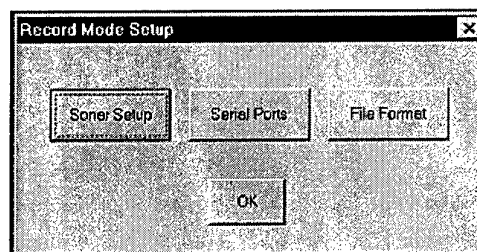
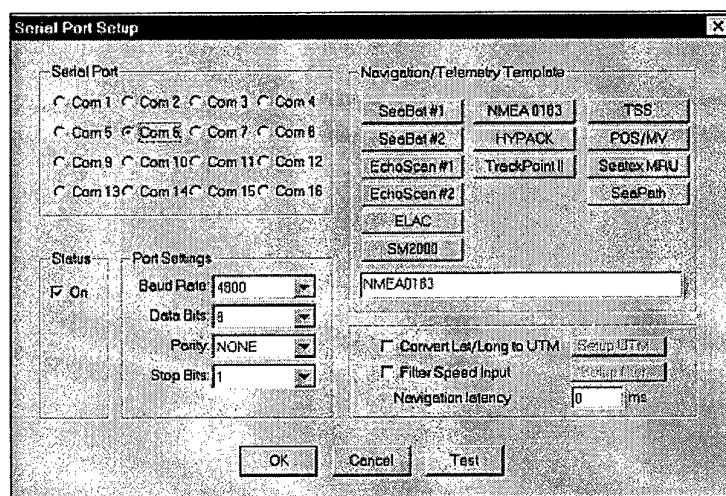
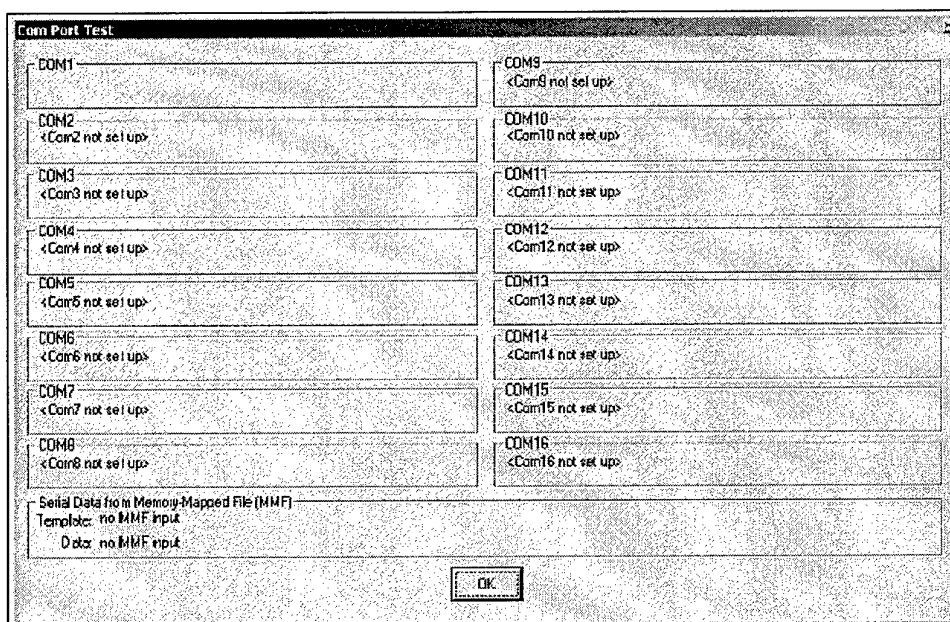

Figure 48 The Record Mode Setup window in Isis.
Figure 52 The Serial Port Setup window used in Isis.
Figure 53 The Com Port Test window in Isis.
To set up Isis so that it knows which sonar it will be acquiring data from, which data channel from the selected sonar it needs to display backscatter and which channels need to be saved to disk, click on the File menu and select the Record Setup. This will cause the Record Setup Options window (see Figure 48) to be spawned. In this window there are three choices: Sonar Setup, Serial Ports, and File Format. These three dialogue boxes are fundamental to setting up Isis ready for data collection, because they control:
The first step in configuring Isis so that it will interrogate a particular com port, decipher the data arriving on it, and then incorporate the data into the sidescan sonar data file, is to click on the "Serial Ports" tab in the Record Setup window (see Figure 48). When this is done the Serial Port Setup window is spawned (see Figure 52) and it is in this window that the settings are made.
- If data is being transmitted to the com port then it is possible to test that the settings made above will save the data appropriately. This is possible by either clicking on the Test button in the Serial Port Setup window or clicking on "Com Port Test" from the "Tools" menu in the main Isis window. This displays the Com Port Test window (see Figure 53) in which a panel exists for each com port showing the activity on it and how Isis is deciphering this activity. The panel will display "Com port not set up" if the status box for the port is not checked
- When each com port has been setup correctly click the OK button in the Serial Port Setup window (Figure 52).
Similar to testing the set up of each com port when a predefined template is used, to test that a template has been created correctly, click the "Test" button in the Serial Port Setup window (Figure 52) or select "Com Port Test" from the "Tools" menu of the main Isis window. This displays the Com Port Test window (see Figure 53) in which the data Isis is obtaining for each com port is shown. The panel will display "Com port not set up", if the status box for a port is not checked as on, whilst for the serial ports that are checked, any data being received is displayed. If the data needing to be recorded is not being displayed then either the template has been incorrectly constructed, or the port settings have been set incorrectly.